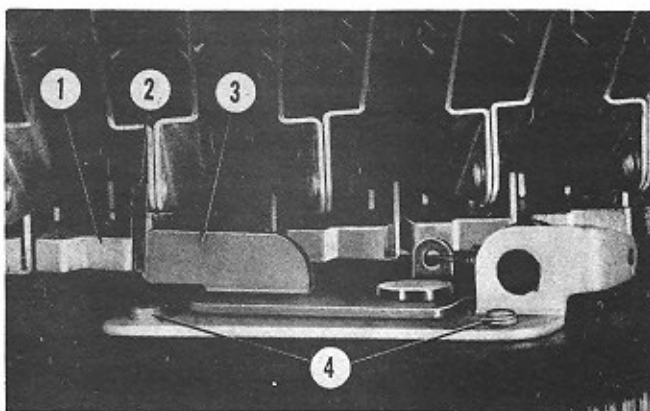

Fig. 73. BACK STOP PAWL SETTING
(1) Loosen the two screws (Item 4, Fig. 73) that hold the back stop pawl and bracket assembly to the chassis mounting plate.
(2) Turn the record carrier slowly in a clockwise direction until the center line of one of the
(3) Carefully maintain this condition of alignment and set the left hand back stop pawl to engage with the adjacent tooth of the record carrier casting to a depth of $1/32''$ to $1/16''$ as shown in Fig. 73.
(4) Using the method described in (1), (2), and (3), align and set the right hand back stop pawl.
(5) Now check the alignment of the record lift arms with their respective record compartments in twelve or more various indexed positions of the record carrier. At each check point make sure that the correct tooth of the record carrier is firmly against the corresponding back stop pawl. Alignment of the record compartments with the record lift arms must be kept within a tolerance of $1/32''$.